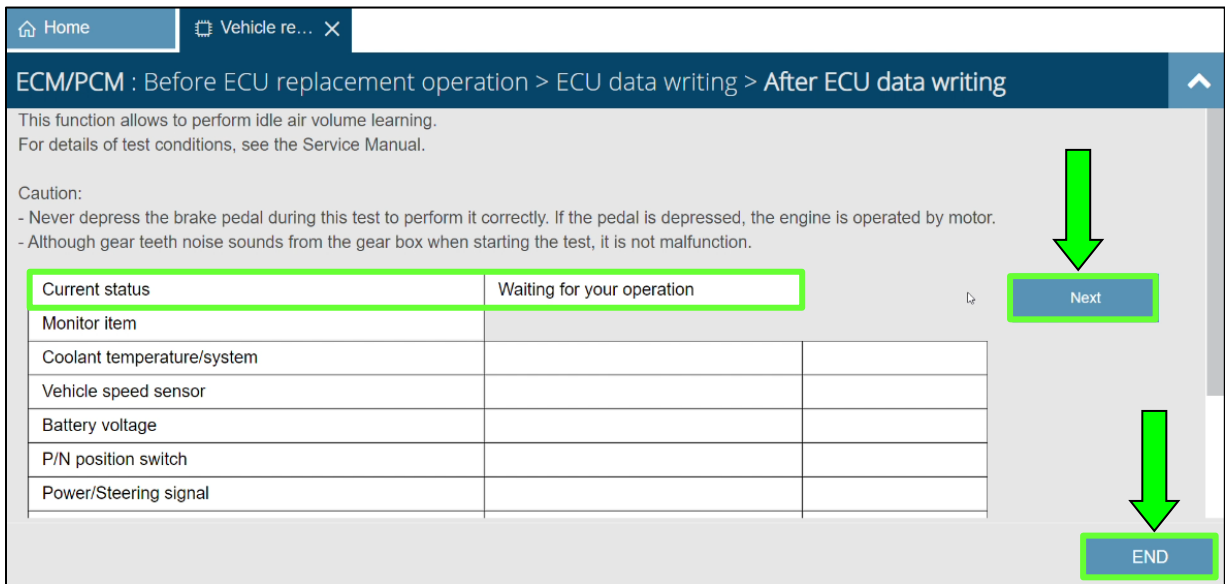

Figure 24
25. When the screen in Figure 24 is shown (Idle Air Volume Learning (IAVL), press and hold the push button ignition switch for 5 seconds to turn the ignition OFF.
26. Follow the on-screen instructions to perform IAVL (Figure 24).